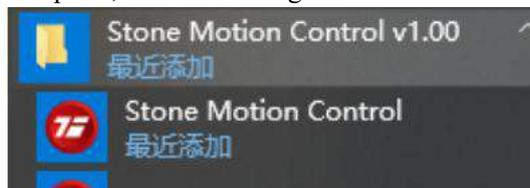

Figure 6-6 Start menu
7. After setup, check the shortcut of ISMC software by accessing "**Desktop**" → "**Start**" → "**All Programs**" on your computer, as shown in Figure 6-6.